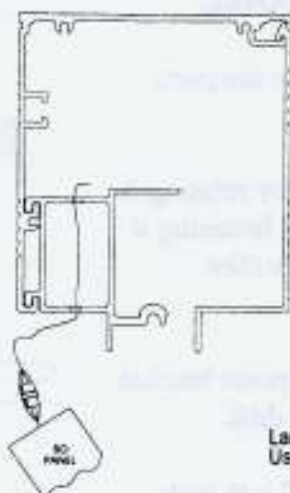

Figure 13
9. Route the control panel wiring harness from the header past the swing panel top pivot (See Figures 13 and 14).